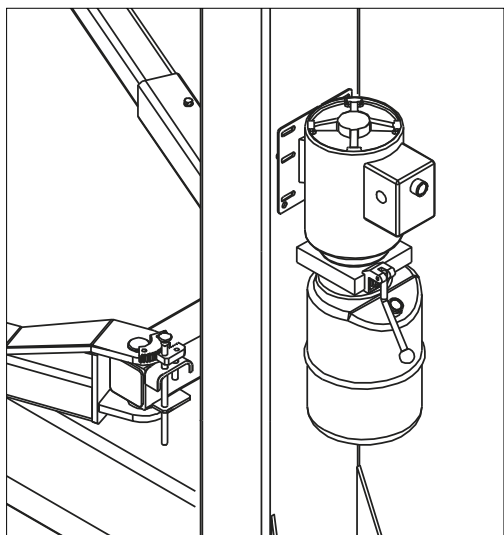

Fig. 32
- ◆ Install the pump on the hock board according to **Fig. 32** and fix it on the bottom of main column.